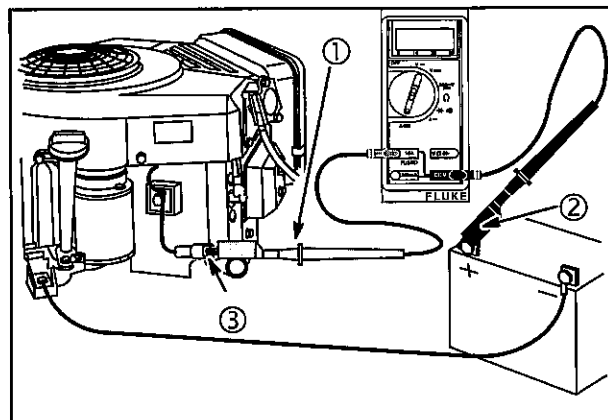

Fig. 25
4. Attach RED test lead clip (1) to RED DC output terminal (3) on regulator-rectifier, Fig. 25.